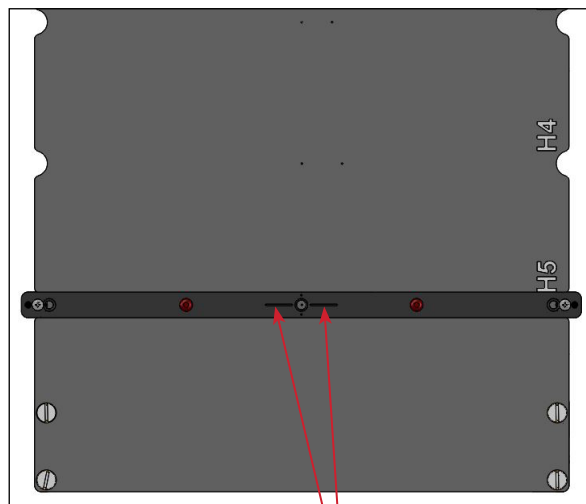

Fig. 42
2. Use the CT Laser alignment system to define the center of the CT Overlay on the head of the Overlay. If the centering marks on the Locating Bar do not line up with the laser, repeat steps 3 and 4 of the “CT Overlay Head End Alignment” section to align the CT Overlay with the laser (Fig. 42).